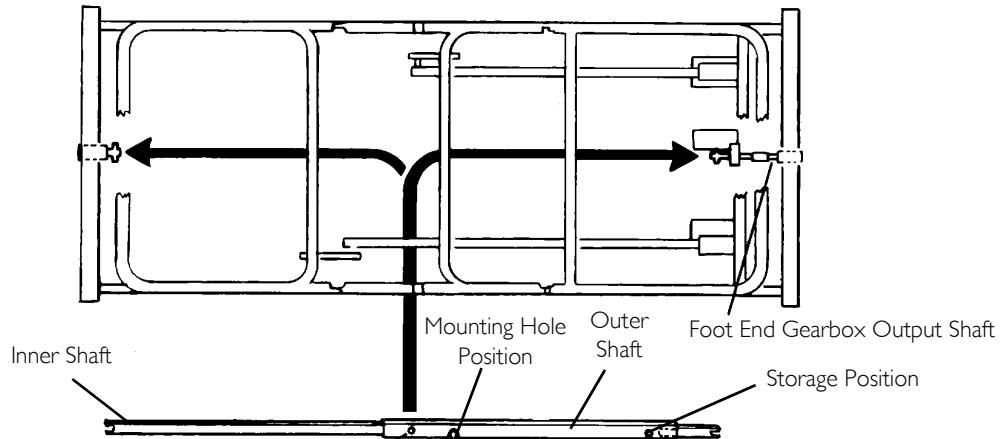

FIGURE 6 Installing the Drive Shaft Assembly
NOTE: For this procedure, refer to FIGURE 6.
3. Slide the inner shaft into the outer shaft and engage the spring button in the mounting hole position shown in FIGURE 6.